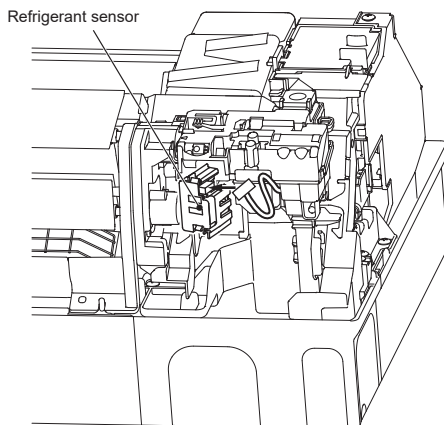

Fig. 2
#### Installation procedure (Fig. 2)
- 3) Connect the lead wire to refrigerant sensor. (Fig. 2)